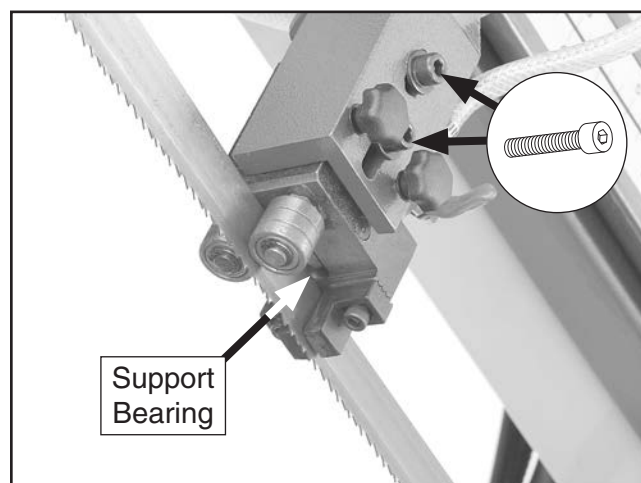

Figure 84. Location of support bearing adjustment components.
- If it does not, loosen cap screws shown in **Figure 84**, move blade guide assembly up or down until support bearing lightly touches back of blade, then tighten cap screws.